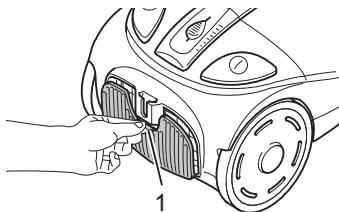

Fig. 25
2. Open the blow-out filter cover. To do this, press the release button (Fig. 25/1) down and pull the blow-out filter cover back and out.